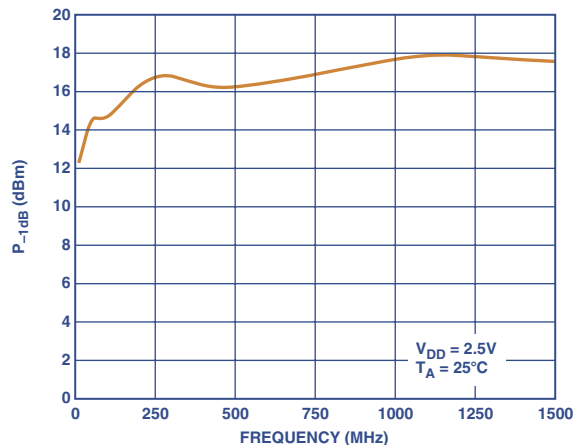

Figure 6. 1-dB compression point vs. frequency.
**P1dB (1-dB compression point)** is the RF input power level at which the switch insertion loss increases by 1 dB over its low-level value. It is a measure of the RF power-handling capability of the switch. As shown in Figure 6, the ADG918 has a P1dB of 17 dBm at 1 GHz, with  $V_{DD} = 2.5$  V.
**Q:** Power-handling capability seems to decrease substantially at the lowest frequencies in Figure 6. Why?